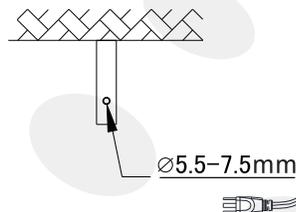
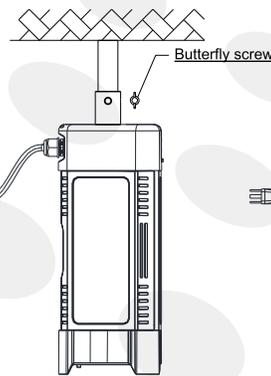
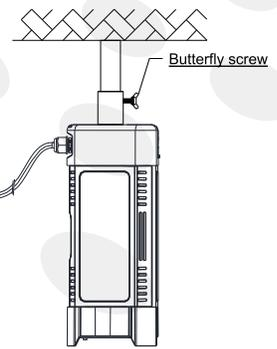

Figure 6
Figure 7
Figure 8
2. Insert the fixture into a round pipe with diameter 20-25mm, the round pole must have a hole with diameter 5.5-7.5mm(Figure6) and then tighten butterfly screw(Figure7)(Figure8), please make sure the butterfly screw was completely inserted into the hole on the round pole!